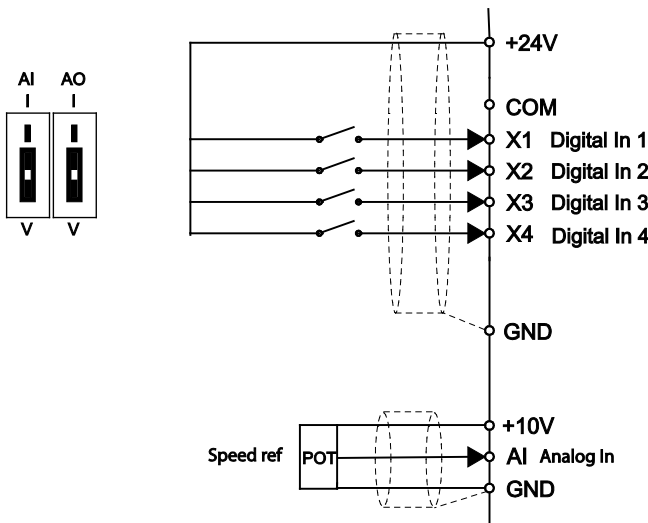

Fig 4-4 Connect pot. to +10V, GND and AI terminal
2. Connect analogue reference signal + to AI and - to GND. If manual potentiometer (10kOhm) is used connect the mid point to AI and ends to +10V and GND. see Fig 4.4.